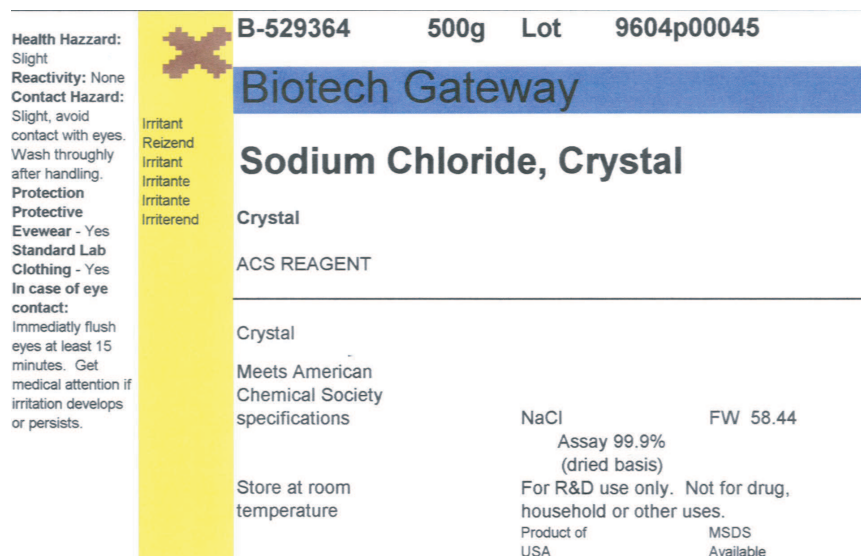

Figure 1
1. One empty chemical bottle of NaCl with the label shown in Figure 1. The label should indicate the formula weight of the NaCl as 58.44 g. You can cut the label out that is given below and paste it to an empty plastic bottle.